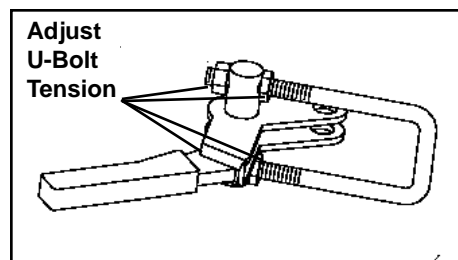

Figure 38
- IMPORTANT:** The lock on the auxiliary pushing attachment must hold the attachment secure. If necessary, adjust tension on U-bolt until a firm locking pressure is achieved. (See Figure 38.)